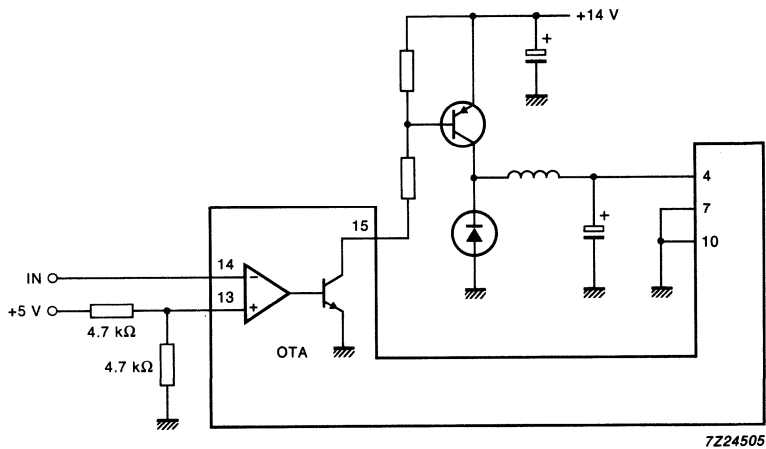

Fig.10 PWM drive of the output stages, OTA used as a level converter.
- With digital or PWM control an external switching transistor is necessary. The OTA can make the level translation and drive the power transistor (see Fig.10).